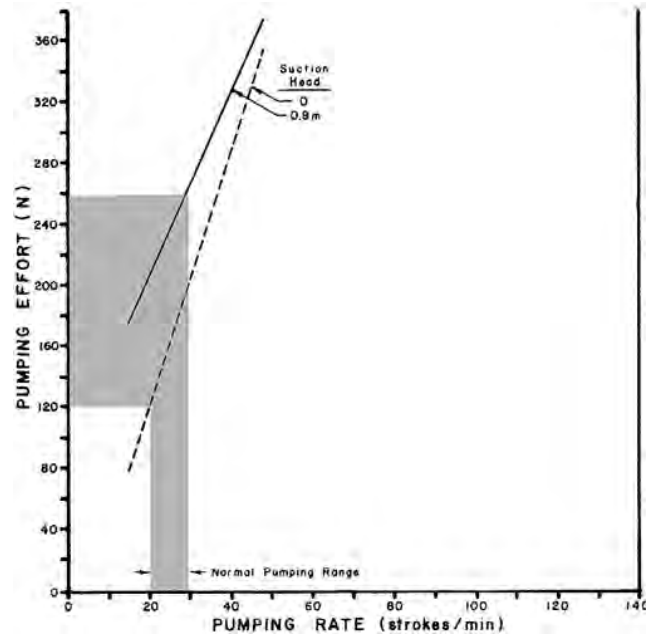

FIGURE 3. Pumping Effort with Diesel Fuel at Two Suction Heads.
**Pumping Effort:** Pumping effort is the hand force that has to be exerted, perpendicular to the end of the pump handle, to operate the pump. Increasing the discharge head had virtually no effect on pumping effort. Pumping effort depended largely on the pumping rate and suction head. FIGURE 3 shows the hand forces needed at two suction heads, over a range of pumping rates. At a pumping rate of 30 strokes per minute, with zero suction head, pumping effort was 202 N (45 lb) compared to an effort of 120 N (27 lb) at 20 strokes per minute. At an average pumping rate of 25 strokes per minute, pumping effort increased from 161 N (36 lb) at zero suction head to 236 N (53 lb) at a 0.9 m (3 ft) suction head.